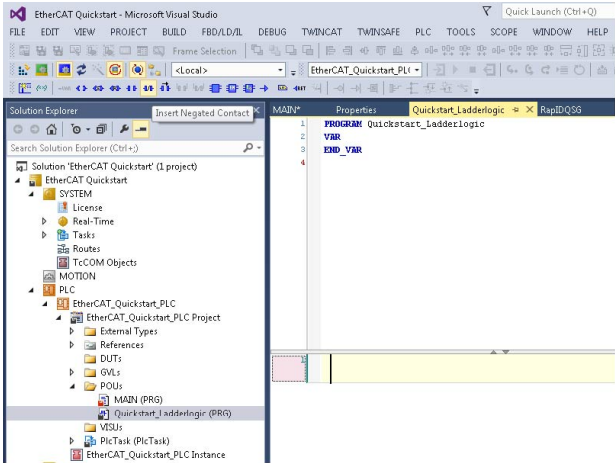

Figure 46. Ladder Logic File Part 2
4. Navigate back to **Quickstart_Ladderlogic (PRG)**. Click the pink highlighted area shown in Figure 46 and click the **Insert Negated Contact** button shown in the upper left portion of the screen.